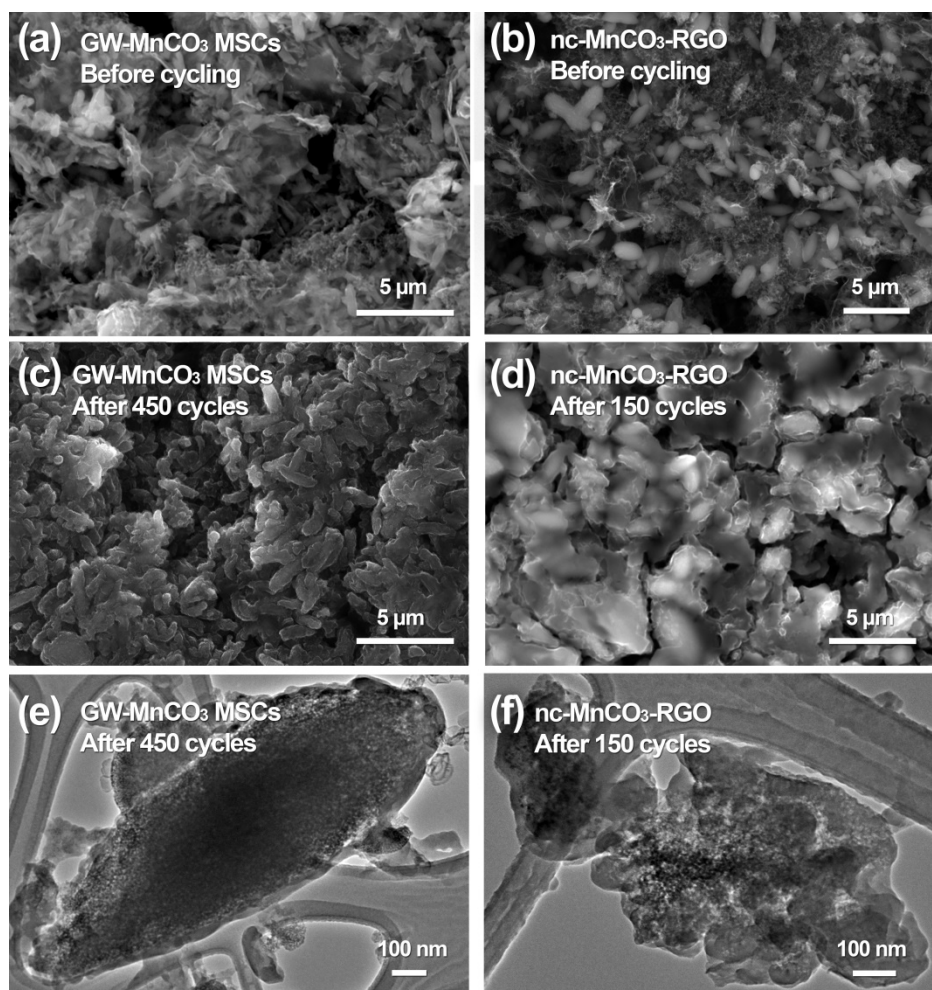

Figure S9. SEM and TEM images of graphene-wrapped (GW) MnCO_3 MSCs and nc- MnCO_3 -RGO before and after cycles.
- 8. Characterization of graphene-wrapped MnCO_3 MSCs and nc- MnCO_3 -RGO after hundreds of cycles. (Figure S9)**